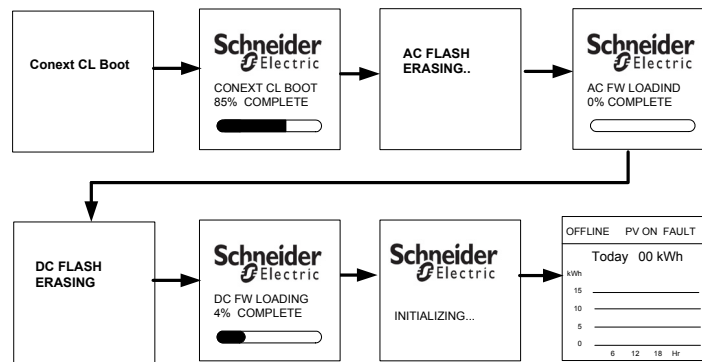

Figure 1-4 DUI screen
10. Once Control Boot loader files are copied successfully, inverter goes for reboot to upgrade new control processor boot loader. These status can be monitored on DUI as standard firmware upgrade sequence of DUI screens as shown in Figure 1-4 on page 1-6.
- r) The DUI displays ask for upgrade confirmation and “Press OK To Upgrade Firmware”. Refer to Figure 1-4 on page 1–6 which shows upgrade process.